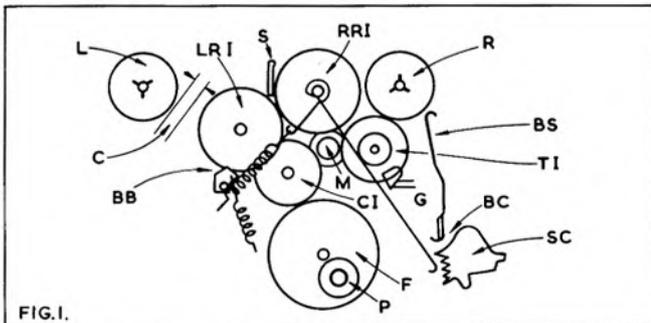

FIG. 1.
**Model 101.** This is a machine with a four-transistor pre-amplifier circuit driving a 6AR5 valve output, doubling as HF oscillator for recording purposes, with a 5MK9 valve rectifier. The spool and flywheel drive is via four separate idlers, with a single function selector lever and spring return action throughout. Fig. 1 gives some indication of the mechanical system and notes the clearances to be obtained from the following adjustments.
A subsidiary brake is applied to the left-hand idler, as shown at BB. There is a tension spring with this brake block, allowing adjustment. Note the clearance C (shown exaggerated in fig. 1).
The pinch pressure can now be adjusted. First check that the arm is correctly operated, so that the roller at its right-hand end comes within a half-millimetre of the Fast Forward cam, which is concentric with the cam SC of fig. 1. The machine is switched to Fast Forward for this test and adjustment is by moving the whole head mounting plate (three screw fixing). It may be necessary to adjust the tape shifter, i.e., the arm on the lever which comes between the two heads. Finally, see that the pinch lever allows the Fast Forward lever to return to its normal position. If necessary, apply a little judicious pressure with the long-nosed pliers. Note that the capstan and pinch rollers with red markings are used on 50 c/s, and the 60 c/s components have a white upper circle. In addition, the voltage selector and motor connection panel have to be altered.
Print-through is simply the transfer of the magnetic impressions recorded on any part of the tape to the layers adjacent to it in the reel, by the process illustrated in fig. 1. The shaded part of the coating represents the extent of two half-wavelengths of recorded signal—the magnet elements beloved of beginners' booklets and advertisements—and its external flux passes through adjacent coating layers much as shown, becoming weaker in the normal way as the distance from the recorded element increases. Since the magnetic oxide powder in the tape coating contains a small proportion of particles having a very low coercive force (say about 0.1 oersted against the 250-300 oersteds of the bulk of the particles) some small impression will be left on adjacent layers of coating. The process is probably helped by what is thought to be a continuous vibration of the magnetic vectors associated with the particles, which increases with temperature.
We can see from fig. 1 that a number of layers on either side of the 'master' layer are likely to be affected, in different degrees. Because of the disposition of the flux in the master layer and of the adjacent layers, the strongest print appears in layer A immediately outside the master on the spool. This 'first preprint' precedes the master signal when the reel is played, of course, and it is this print which is usually heard in the silence just before the beginning of a loud sound. The first after-print B is the next strongest, but is less often heard because a loud signal is very rarely followed immediately by enough silence (so to speak) to prevent its being masked. The prints decrease in level in the order A, B, C, D and so on, each pre-print being slightly louder than the corresponding after-print.